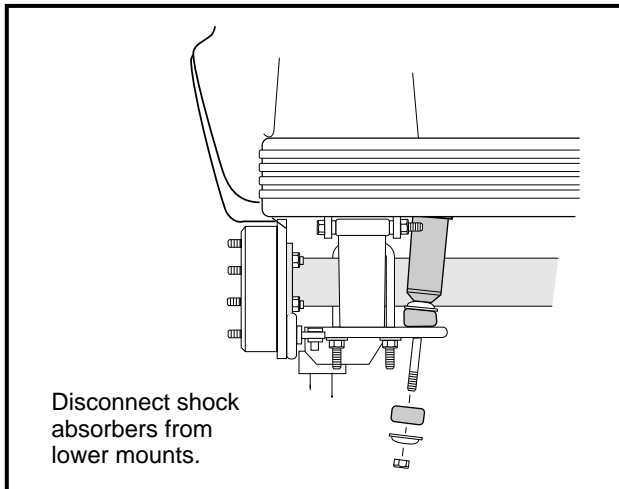

Figure 16-20 Shock Absorbers
5. Remove only the *lower* shock mounting hardware from both rear shocks (**Figure 16-20, Page 16-10**).